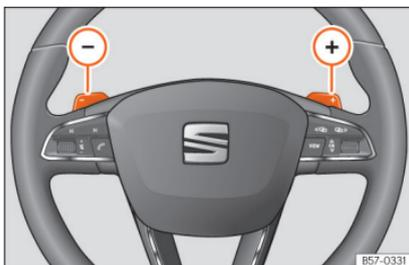

Fig. 260 Steering wheel: automatic gearbox levers
- Press the gearshift paddle to select a higher gear »» **Fig. 260**.